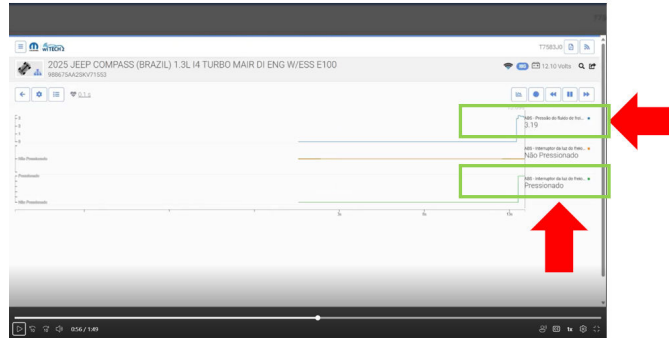

Fig. 6
8. Monitor through the graphs the behavior by slowly stepping on the brake pedal, when activating the first stage of the switch the pressure should be up to 4 Bar (H1/ M1 / N4) and 6 Bar (B1) Fig. 6.
9. Is the Bar pressure greater than 4 Bar (H1/ M1 / N4) and 6 Bar (B1) Fig. 6?